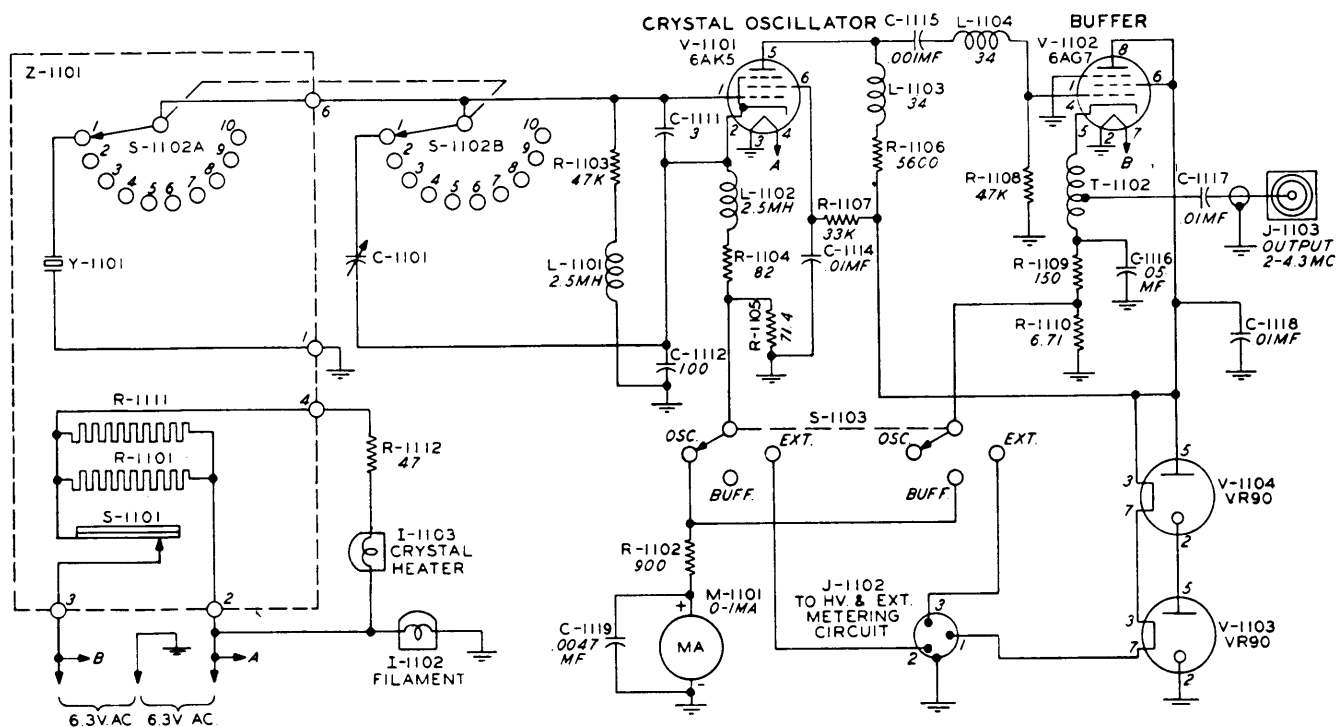

Figure 2-2. Simplified Schematic — RF Oscillator O-92A/FRT-5,
(1) RF OSCILLATOR O-92A/FRT-5. — (Refer to figure 2-2.) — RF Oscillator O-92A/FRT-5 is a 10-channel crystal oscillator capable of delivering 2 to 4 volts RMS into a 50-ohm to 80-ohm load over the frequency range of 2000 kc to 4300 kc. It utilizes a Pierce oscillator circuit and consists of an untuned